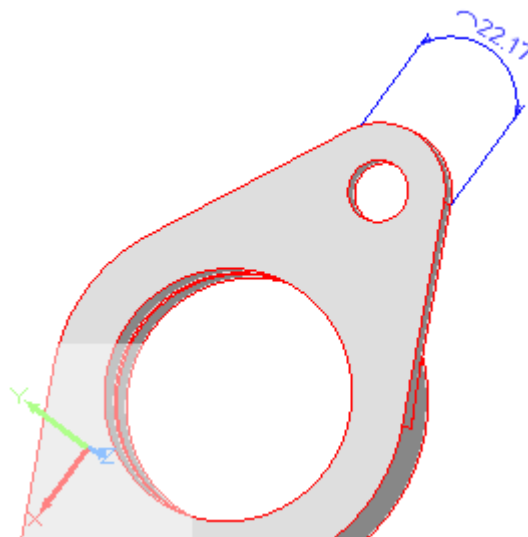

Figure 4. Arc length dimension presentation in 3D View
- *Arc length dimension* (see Figure 4). The graphical symbol \frown precedes the dimensional value.